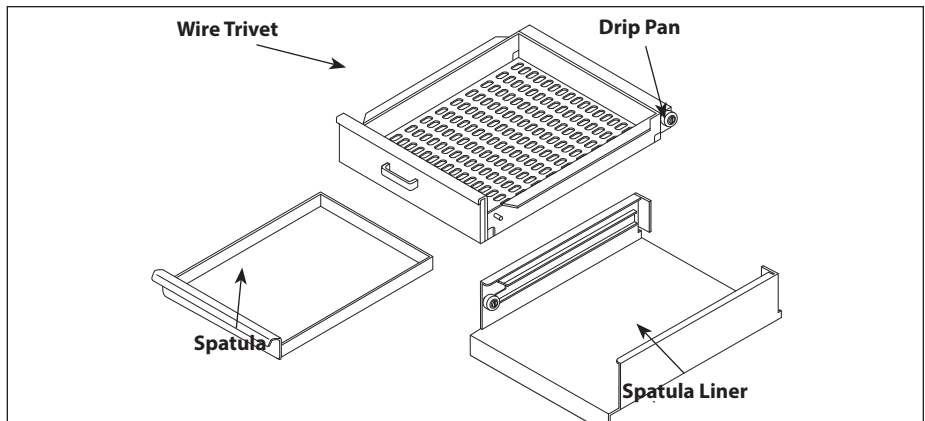

Figure 1. Washing Parts-MS-250 Only
4. **MS-250:** Remove and wash the Wire Trivet, Spatula, Spatula Liner, and Drip Pan (Figure 1) in soap and water. Rinse with clean hot water and allow to air dry.